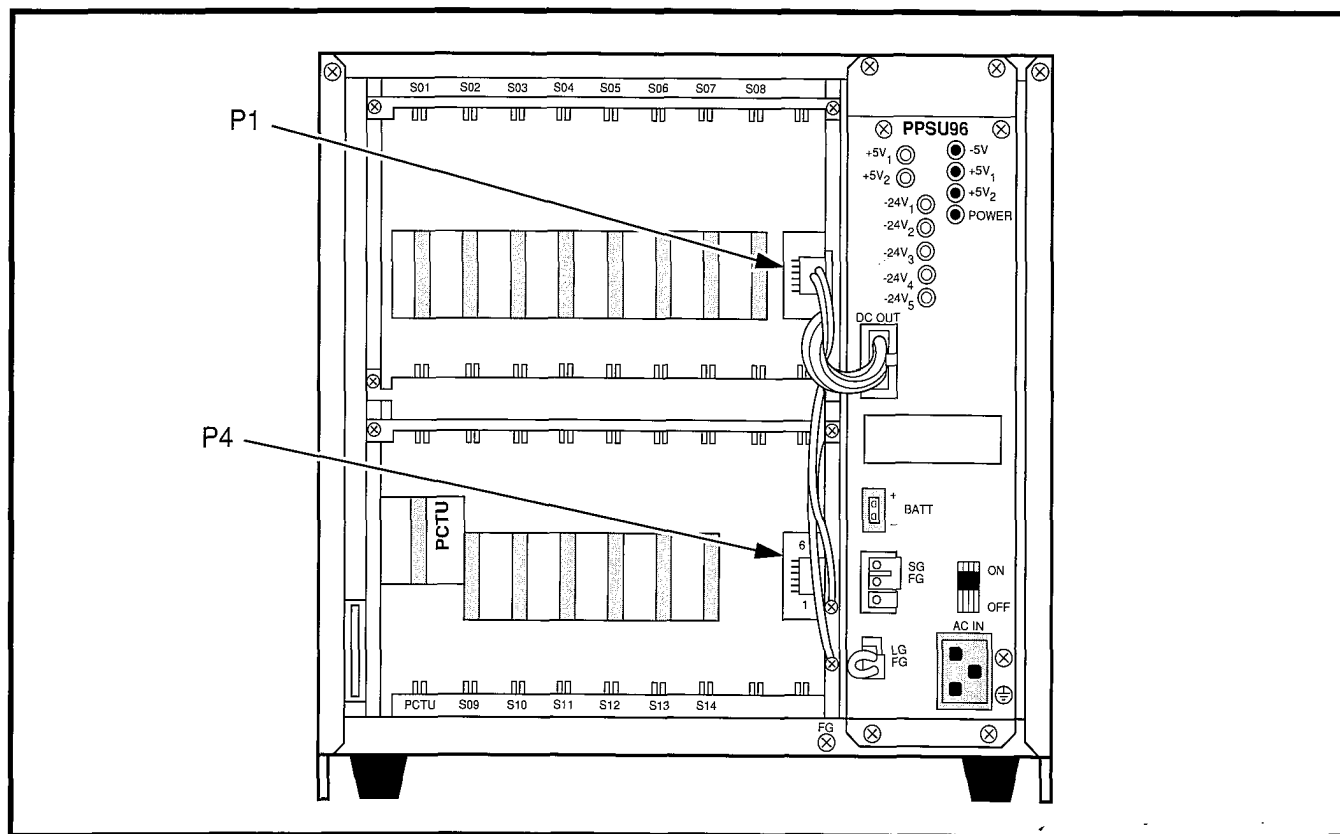

FIGURE 2-4—DK96 KSU INTERIOR
3.31 The cabinet interior has two shelves (Figure 2-4). The top shelf has eight available PCB slots labeled S01 ~ S08. The bottom shelf has seven available PCB slots labeled PCTU and S09 ~ S14. Only the PCTU slot serves a dedicated function.